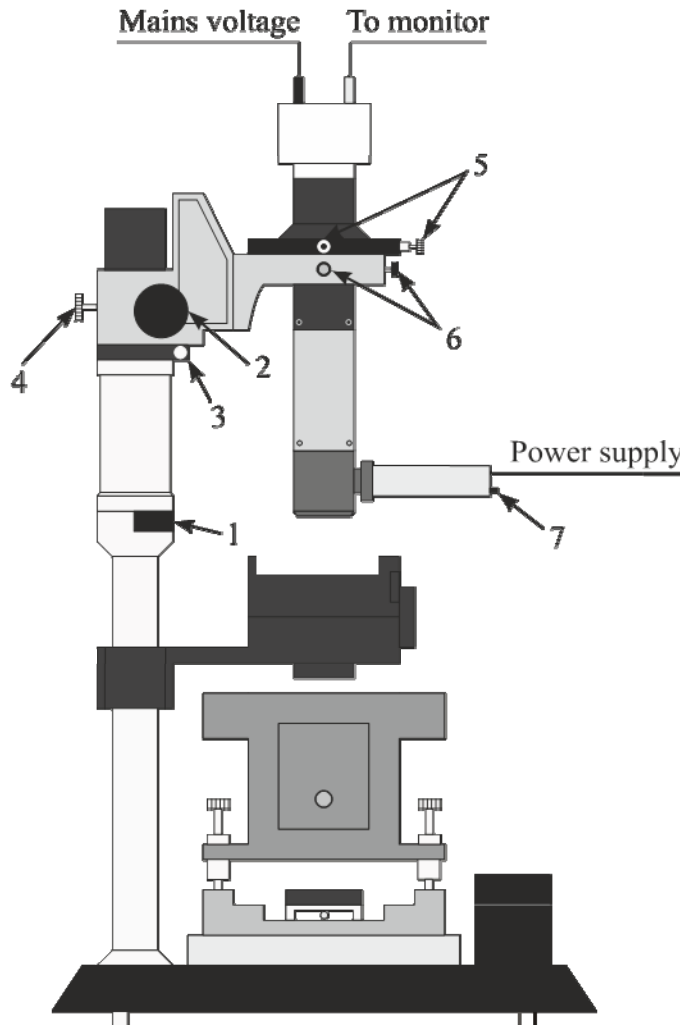

Fig. 1-6. General view of NTEGRA Spectra with the CCD27 optical viewing system in place
1. Turn on the illuminator of the videomicroscope with the button 7 (Fig. 1-6).